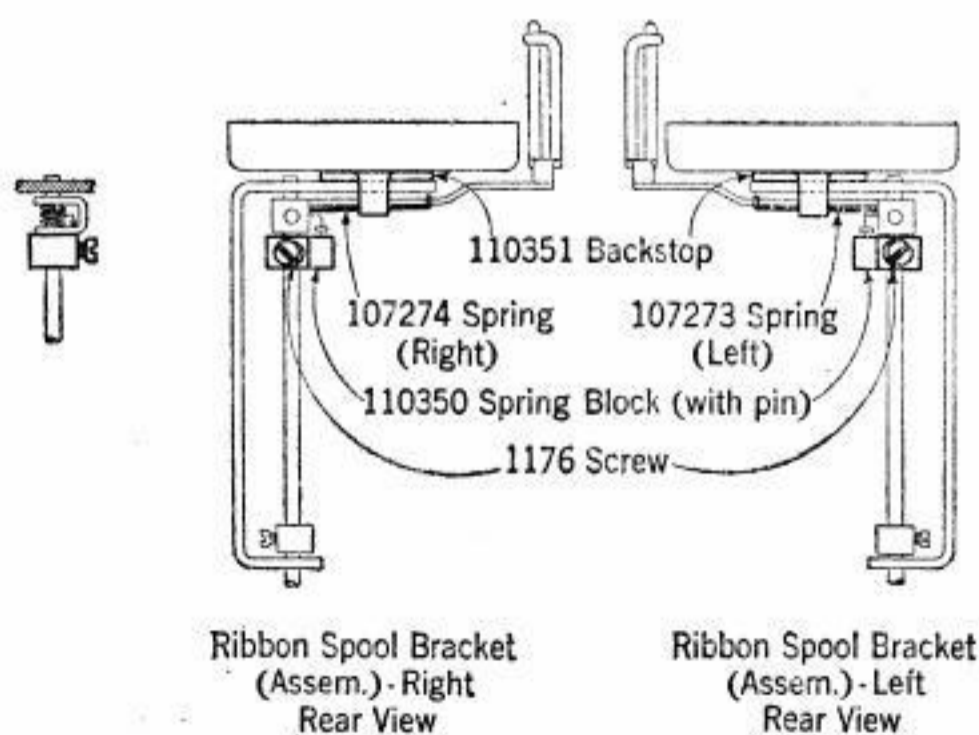

Fig. 1
- 3.03 Remove the 2201M* nut, 4814M lockwasher and 3288M washer from the left and right ribbon spool positions. Substitute a 110351M backstop furnished with the parts for the 70793M washer under each ribbon spool cup. The backstops are to be installed so that the formed projections extend downward and so that the projections are in front of the ribbon reverse arms as viewed from the rear. See Fig. 1.
- 3.07 Loosen the set screws in the ribbon reverse shaft collars and the ribbon reverse links on the left and right ribbon reverse shafts. Lower the shafts and remove the ribbon reverse arms. See Fig. 1.
3.08 Install one of the two 110350M spring blocks furnished with the parts on each of the left and right ribbon reverse shafts. Position the spring block so that the spring post is on top and tighten the set screws. (Each spring block is equipped with two set screw mounting holes so that the spring block can be used on the left or right shafts by placing the 1176M set screws furnished in the proper mounting holes.) See Fig. 1.